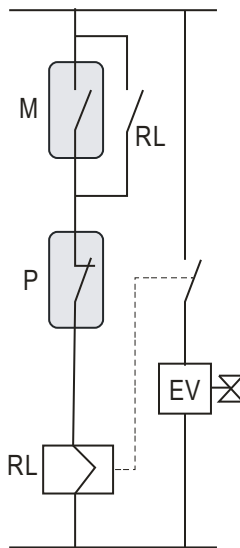

Figure 6.
- Two magnetic switches with a single contact each one of them (figures 6 and 7).
- One sole magnetic switch provided with two contacts placed at the required heights (figures 6 and 7).